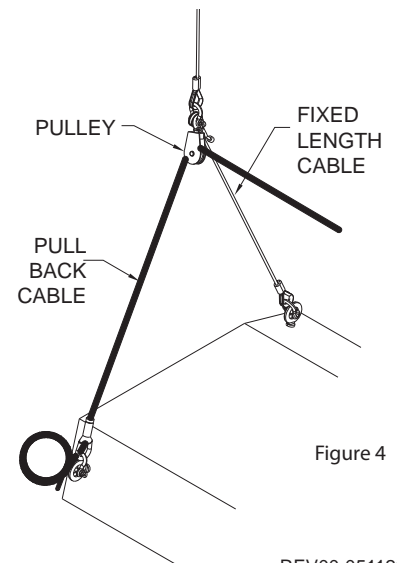

Figure 4
Capture one of the end loop of the RIGHT front fixed length cable and the eye of the Pulley from the pull back cable with supplied shackle (Figure 4).
Step 5: Capture one of the end loop of the LEFT front fixed length cable and the eye of the pulley from the pull back cable with supplied shackle (Figure 4)